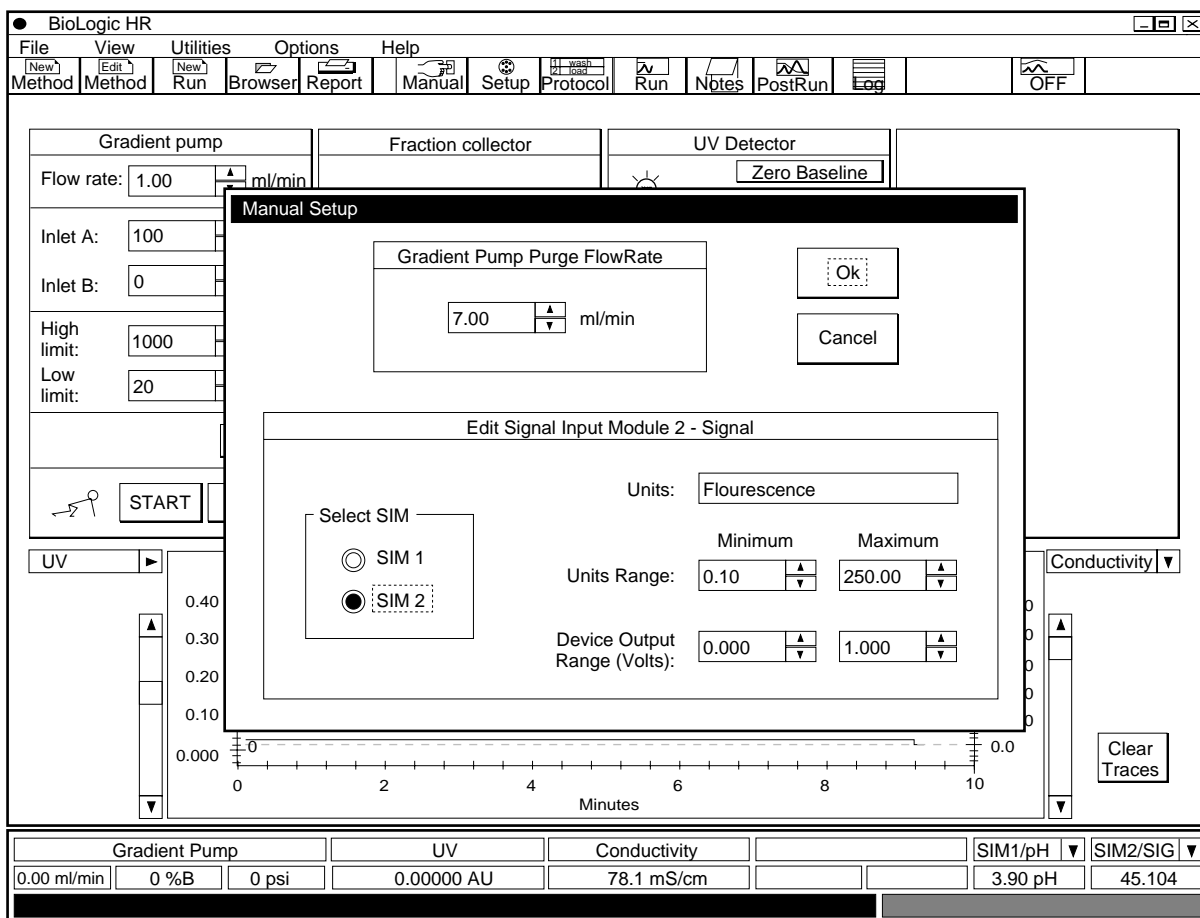

Figure 6. Manual Setup Dialog Box, showing how to customize data input only for the Manual screen chromatogram
- c. To select how the incoming data is to be handled, select “Manual Setup” from the “Utilities” drop down menu. The example shown is for a fluorescence detector. Note that this information does not affect the Run parameters for the fluorescence detector; it affects only how the incoming data is to be handled in the Manual screen chromatogram. Set the Units and the minimum and maximum for the Units Range and the Device Output Range (volts). Refer to the analog device’s documentation for information on output voltages. Figure 6 shows the Manual Setup for a fluorescence detector on SIM2. The Unit of measure is Fluorescence, and the Units Range is 0.1 to 250, and the monitor’s Device Output Range (volts) is 0 to 1 volt.